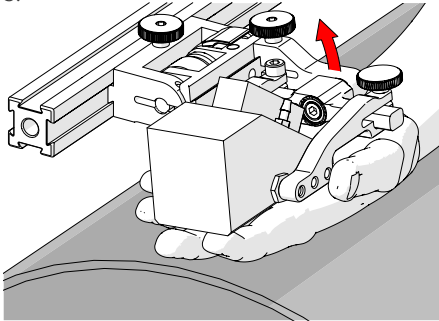

Fig. 174 - Lift to latched position
1. Ensure probe holder is in latched, upper position (Fig. 174). If the probe holder is already latched, it will only move within the slip joint adjustment range and have no spring tension.
1. Ensure the probe holder is in the upright latched position (Fig. 174).